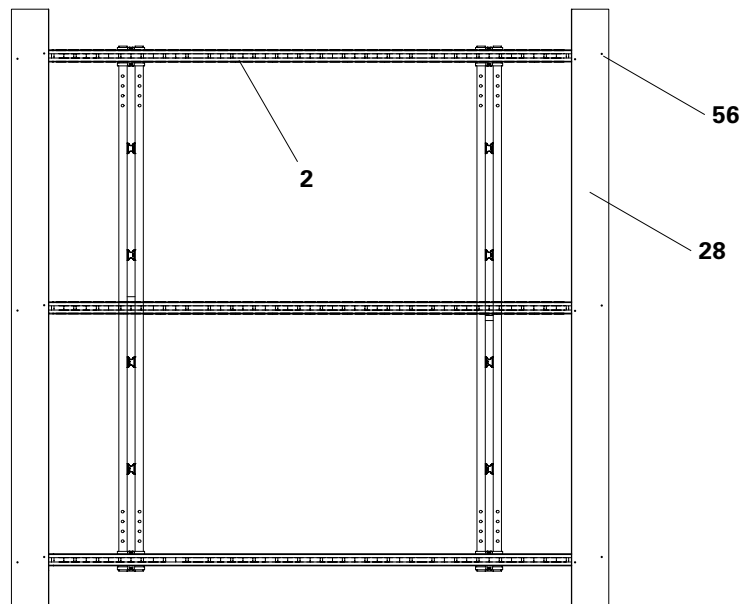

Fig. B5.06
2. Align each planking 40 mm (**28**) flush with the ends of the girders (**2**). Ensure that the overhang is the same on both sides. (Fig. B5.06)